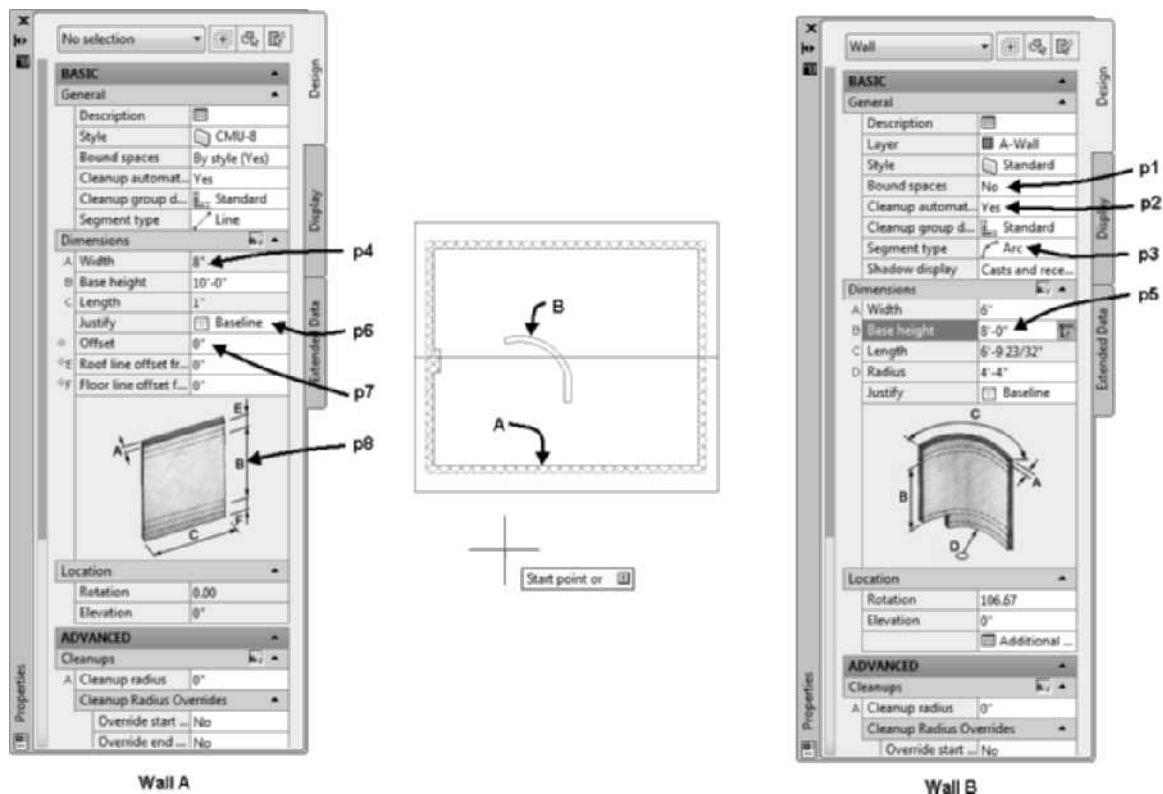

FIGURE 2.7 Basic section of the Properties palette of a wall
4. Select wall **A** as shown in Figure 2.7; choose **Add Selected** from the General panel of the Wall contextual tab. The Properties palette consists of the settings to create the wall based upon the settings of the selected wall as shown at left in Figure 2.7.
6. Press Escape, and select wall B as shown in Figure 2.7. The Properties palette for this wall shown at right includes additional fields since it describes an existing wall. The Bound spaces field, shown at **p1**, for this wall is set to **No**.
7. Retain the selection of wall B, and choose the **Cleanup automatically field** (refer to **p2** in Figure 2.7). The Yes and No options control the automatic cleanup when walls intersect. The Cleanup group definition lists the **Standard** cleanup group style. Cleanup group definitions can be used to selectively clean up walls.
15. Select wall **A**; the Justify field setting for the wall is currently set to Baseline as shown at **p6** in Figure 2.7. However you can click at p6 to view the following additional justifications from the flyout: Center, Right, and Left.
17. Select wall **A**, and choose **Add Selected** from the General panel Wall tab. The E Roof line offset from baseline and F Floor line offset from baseline fields allow you to enter a distance to extend the wall above the base height or below the baseline of the wall as shown in the graphic at **p8** in Figure 2.7.